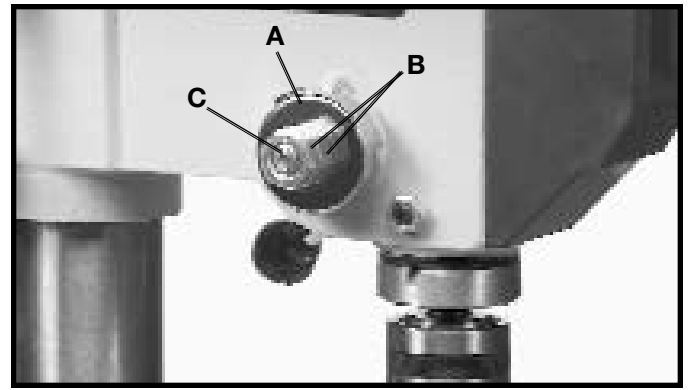

Fig. 27
2. Loosen the two nuts (B) Fig. 27, approximately 1/4". Do not remove nuts (B) from shaft (C).